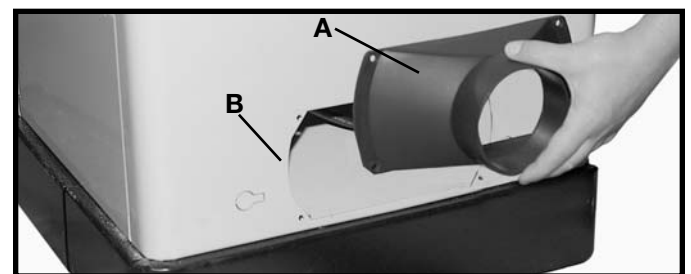

Fig. 32B
The Unisaw is supplied with a dust chute connector to provide a means of connecting a 4" diameter dust collector hose to the machine. Align the four holes in the dust chute adapter (A) Fig. 32B, with the four holes in the back of the saw cabinet (B) and attach the dust chute adapter with four #10 x 1/2" sheet metal screws. **NOTE: DO NOT MOUNT THE DUST CHUTE ADAPTER UNLESS A DUST COLLECTION SYSTEM IS USED IN CONJUNCTION WITH THE SAW, FOR THE DUST CHUTE ADAPTER WILL RESTRICT THE GRAVITY FEED OPENING FOR SAW DUST REMOVAL.**